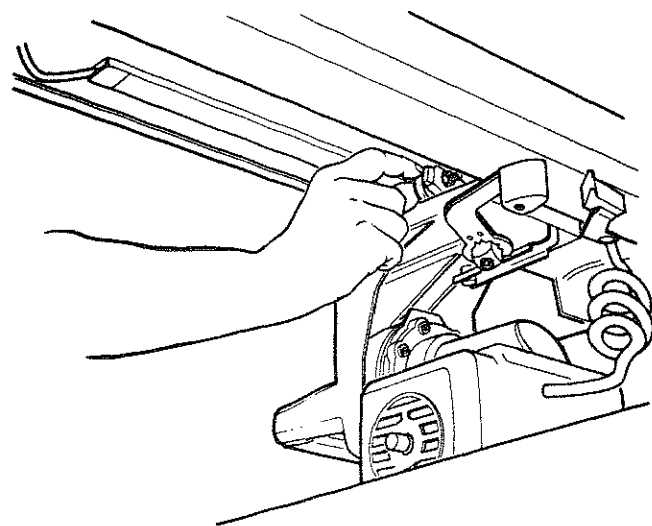

Fig. 118
12. Pinch the *front carriage bearing* with your fingers as tightly as possible while you pull the *motor* forward with the other hand. Try to keep the *carriage bearing* from turning. (Figure 118)